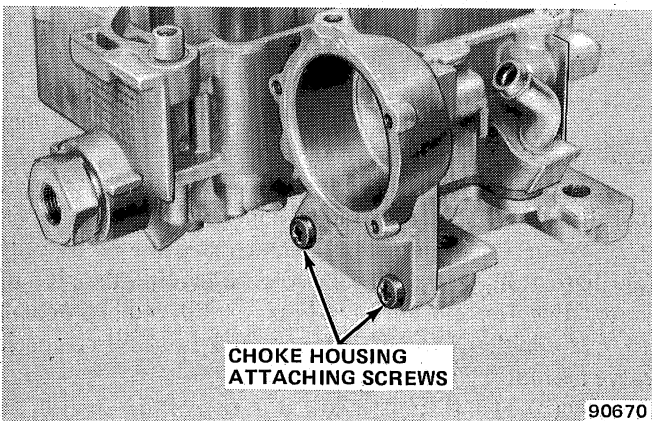

Fig. 1J-80 Carburetor Model E2SE—Choke Housing Screws
(28) Remove fuel inlet fitting, gasket, check valve/filter assembly, and spring.
(29) Remove four throttle body-to-bowl attaching screws and lockwashers and remove throttle body assembly (fig. 1J-81).
(30) Remove throttle body-to-bowl insulator gasket.
(31) Hold primary throttle lever wide-open and disengage pump rod from throttle lever by rotating rod until tang on rod aligns with slot in lever.
(32) If replacement is necessary, remove fast idle adjustment screw and clip in primary throttle lever.
(33) If required, remove curb or base idle speed adjustment screw and spring from throttle body.